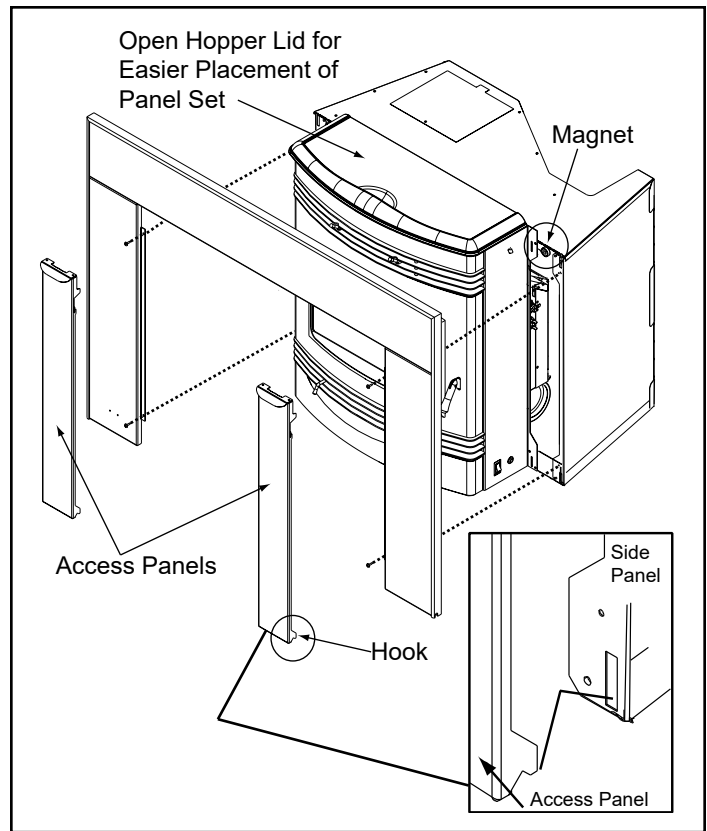

Figure 21.3
3. Open the hopper lid by pulling toward you. This will make it easier to set the panels in place. Secure the panels to the insert, 2 screws per leg, as shown in **Figure 21.3**.
6. Install the access panels. At the bottom of the access panel there are 2 hooks that slip into a slot at the bottom of the side panel and a magnet at the top that holds the access panel in place (**Figure 21.3**).